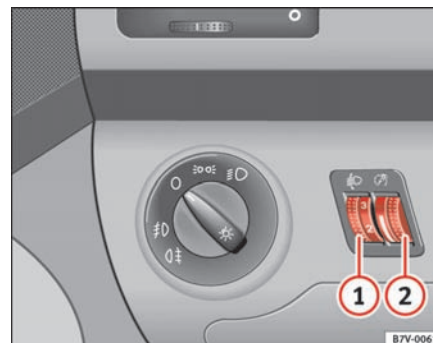

Fig. 72 Instrument panel: headlight range control ① and illumination of instruments and switches ②
When the headlights are switched on, the brightness of the instruments and switch lighting can be regulated to suit your requirements by turning the switch ⇒ page 109, fig. 72 ①.